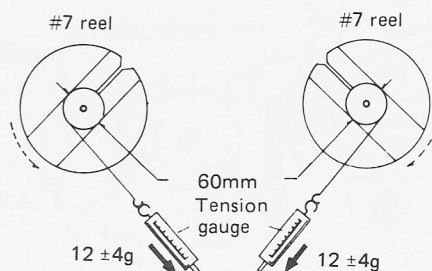

Fig. 11
3. Pull the tension gauge and read the value when the reel slowly rotates (Fig. 11).